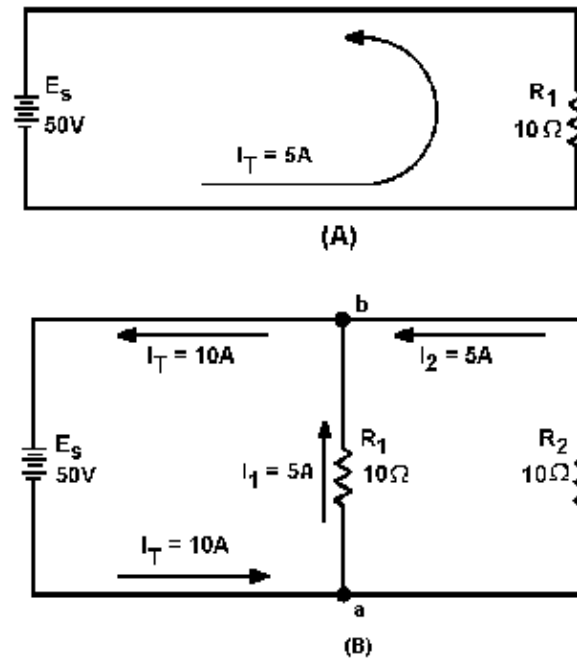
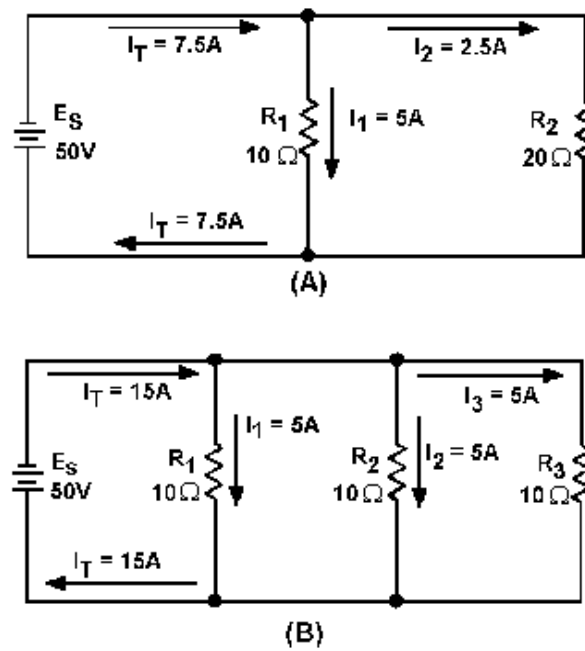

Figure 3-40.—Analysis of current in parallel circuit.
Figure 3-41.—Current behavior in parallel circuits.
Part (A) of figure 3-40 shows a basic series circuit. Here, the total current must pass through the single resistor. The amount of current can be determined.
Part (B) of figure 3-40 shows the same resistor (R_1) with a second resistor (R_2) of equal value connected in parallel across the voltage source. When Ohm's law is applied, the current flow through each resistor is found to be the same as the current through the single resistor in part (A).
The total current of 10 amperes, as illustrated in figure 3-40(B), leaves the negative terminal of the battery and flows to point a. Since point a is a connecting point for the two resistors, it is called a JUNCTION. At junction a, the total current divides into two currents of 5 amperes each. These two currents flow through their respective resistors and rejoin at junction b. The total current then flows from junction b back to the positive terminal of the source. The source supplies a total current of 10 amperes and each of the two equal resistors carries one-half the total current.
Each individual current path in the circuit of figure 3-40(B) is referred to as a BRANCH. Each branch carries a current that is a portion of the total current. Two or more branches form a NETWORK.
Compare part (A) of figure 3-41 with part (B) of the circuit in figure 3-40. Notice that doubling the value of the second branch resistor (R_2) has no effect on the current in the first branch (I_{R1}), but does reduce the second branch current (I_{R2}) to one-half its original value. The total circuit current drops to a value equal to the sum of the branch currents. These facts are verified by the following equations.
The amount of current flow in the branch circuits and the total current in the circuit shown in figure 3-41(B) are determined by the following computations.
Notice that the sum of the ohmic values in each circuit shown in figure 3-41 is equal (30 ohms), and that the applied voltage is the same (50 volts). However, the total current in 3-41(B) (15 amps) is twice the amount in 3-41(A) (7.5 amps). It is apparent, therefore, that the manner in which resistors are connected in a circuit, as well as their actual ohmic values, affect the total current.